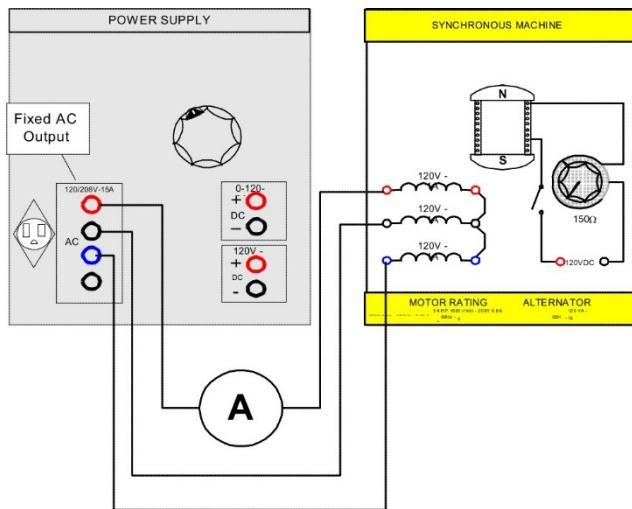

FIGURE 9.3
Step 4: Using your EMS Synchronous Machine, Power Supply and Data Acquisition Interface (DAI) modules in the EMS workstation, connect the circuit shown in Figure 9.3. Note that the three-stator windings are wye connected to the fixed 208V 3\$ output of the power supply, terminals 1, 2 and 3.